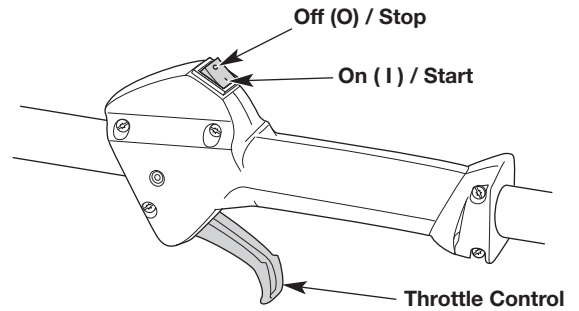
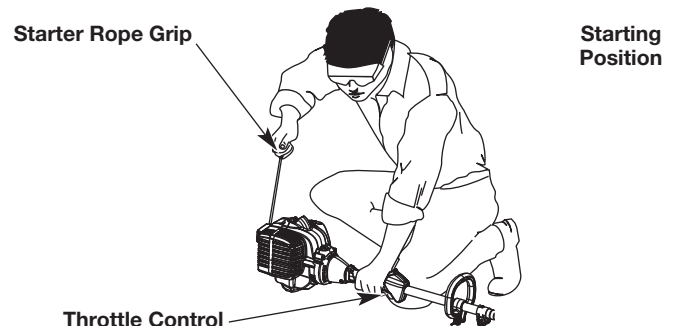

Fig. 9
Fig. 12
**WARNING:** Avoid accidentally starting the unit. To avoid serious injury, the operator and the unit must be in a stable position when pulling the starter rope (Fig. 12).
**NOTE:** There is no need to turn the unit on. The On/Off switch is in the ON (I) position at all times (Fig. 9).
5. Crouch in the starting position (Fig. 12).
6. Squeeze the throttle control (Fig. 9) and pull the starter rope with a controlled and steady motion **5 times** (Fig. 12).
2. Press and hold the On/Off switch in the OFF (O) position until the engine comes to a complete stop (Fig. 9).
7. Squeeze and hold the throttle control (Fig. 9). Run the electric start accessory for 2 seconds.